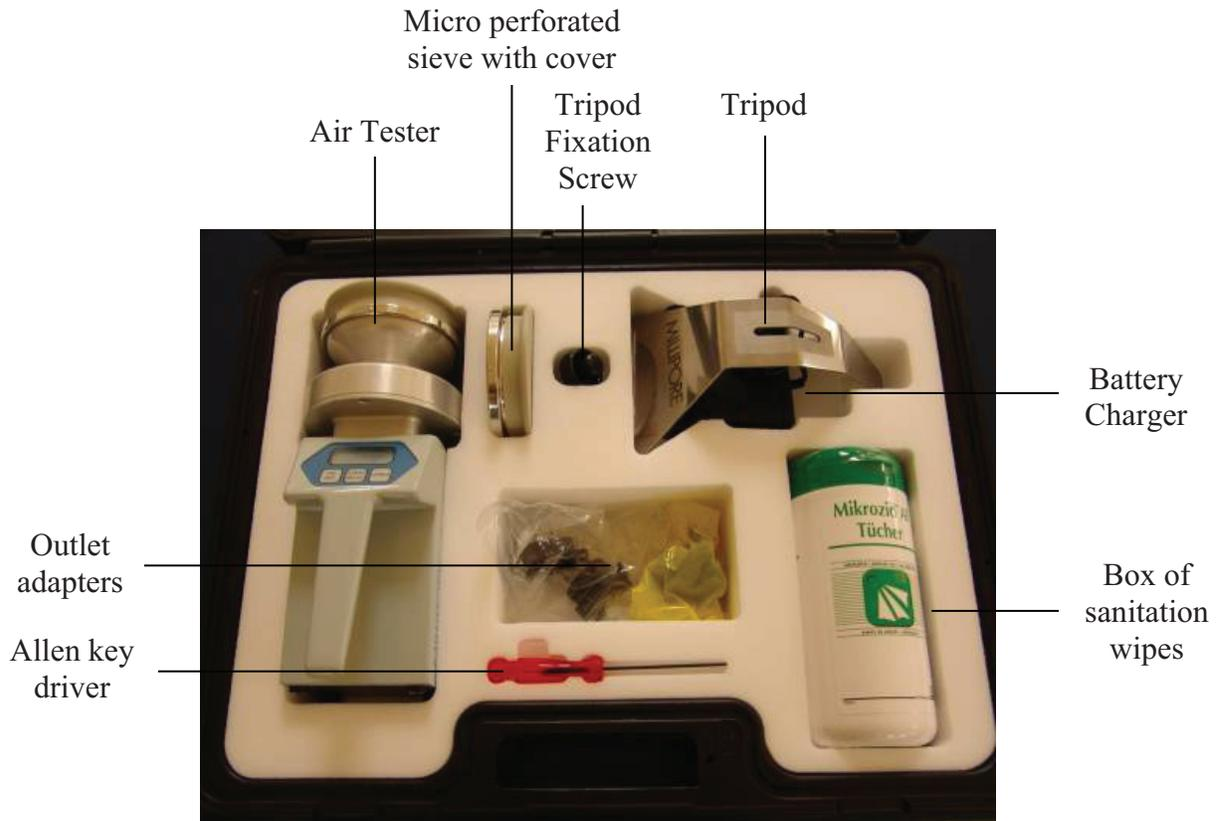

Figure 1: Diagram of the M Air T Millipore Air Tester With Components
9.1. Figure 1: Diagram of the M Air T Millipore Air Tester With Components